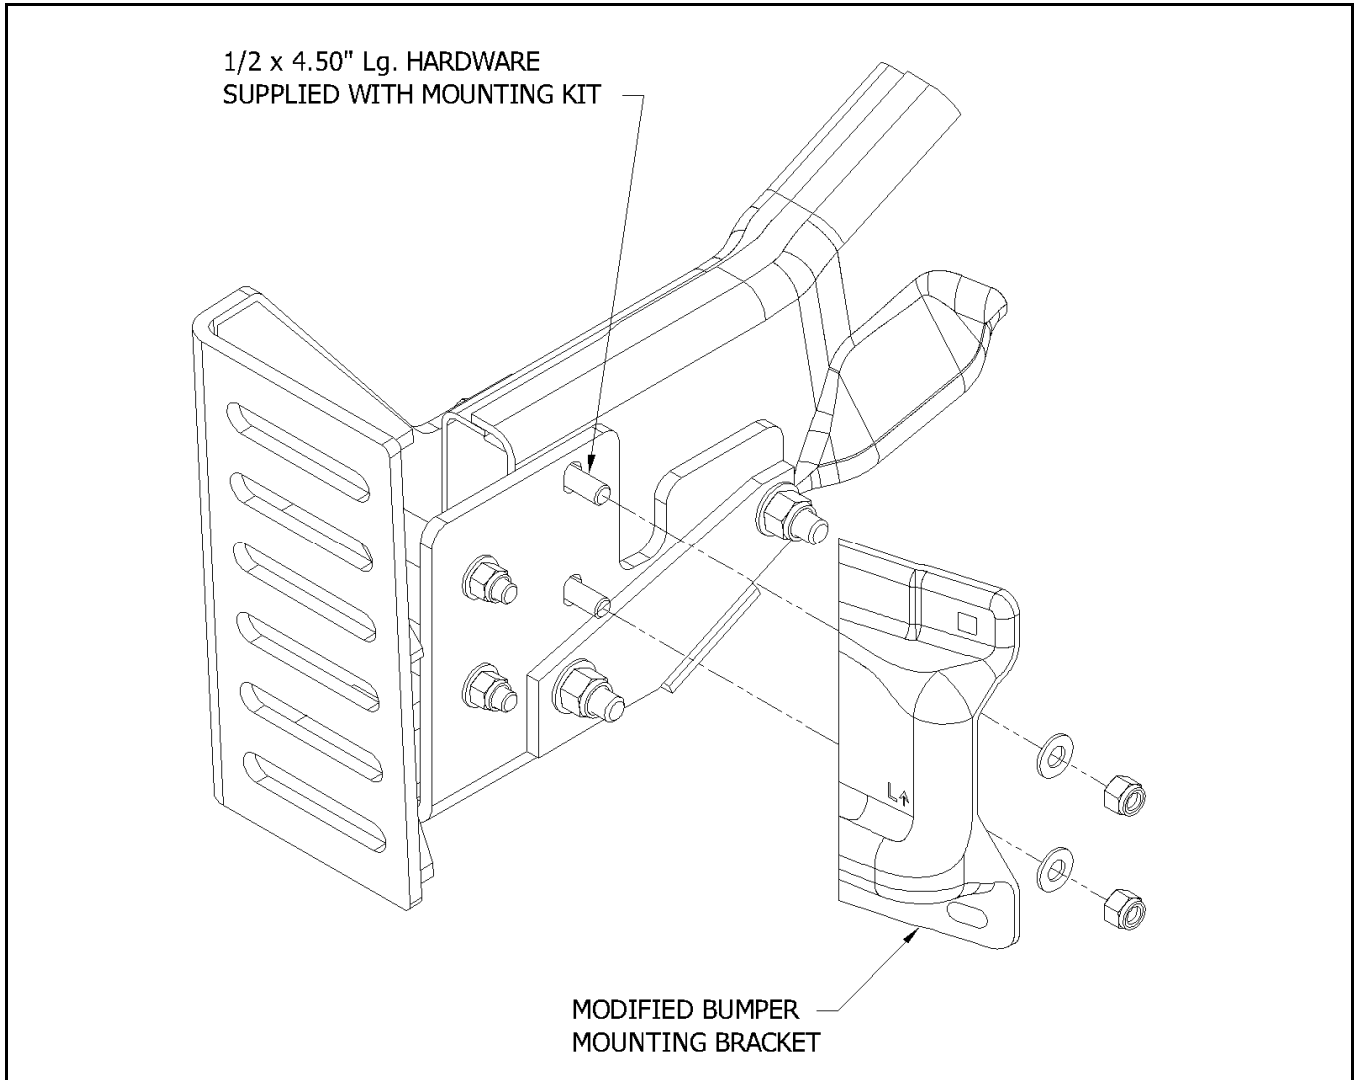

Figure 5
14. If the vehicle’s original front bumper is to be re-installed in its original position, it will need to be modified and reinforced as required by the installer. The recommended modifications are shown at the end of installation section of this manual. (Figure 5)